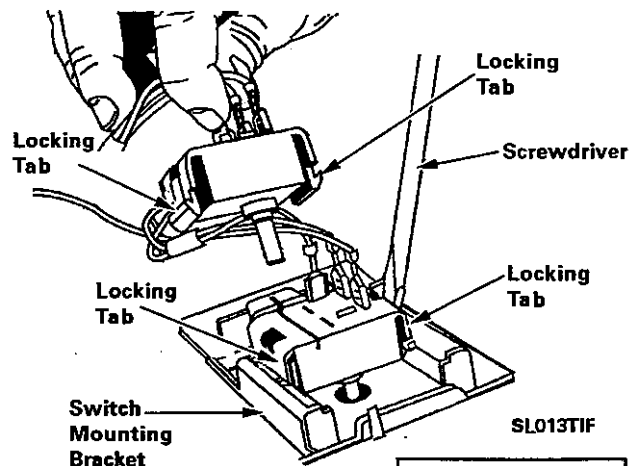

Figure 4-8
1. **To remove** - Depress the locking tab on the switch to disengage the switch from the locking tab on the console. Pivot the switch from the console *(Figure 4-8)*.